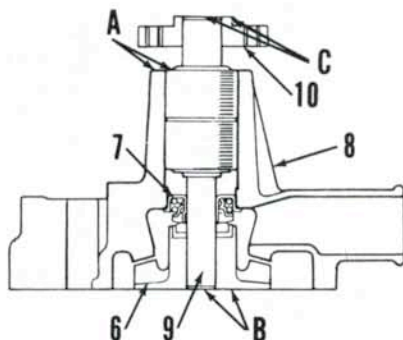

Fig. 145—Cross section of water pump used on 1210 and 1310 models. Refer to text for assembly dimensions (A, B and C) and to Fig. 144 for legend.
front of housing as shown at (A—Fig. 145). Press impeller onto shaft until end of shaft is flush with rear of impeller (B). Support impeller and shaft surfaces (B), then press hub onto shaft until flush with front of shaft as shown at (C).